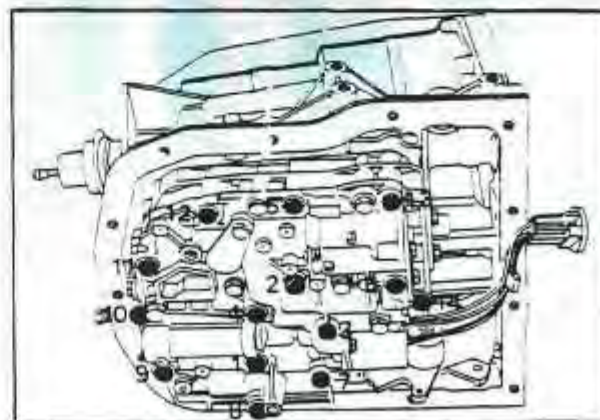

Fig. 18 **VALVE BODY ATTACHING BOLTS-SEQUENCE**
3. Remove the three (3) bolts securing the fluid pick-up screen and gasket and remove.
4. Remove the valve body attaching bolts only. *Fig. 18*
2. Fit the valve body assembly to the transmission and install the remaining bolts. Torque tighten the bolts in the sequence shown. *Fig. 18*